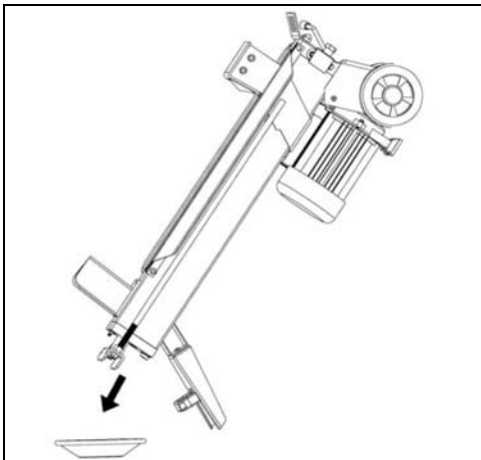

Figure 6
- Clean the Oil Drain Bolt before threading it back into the machine. Make sure they are tightened to avoid leakage before placing the log splitter back into the horizontal position. (see figure 6,7)